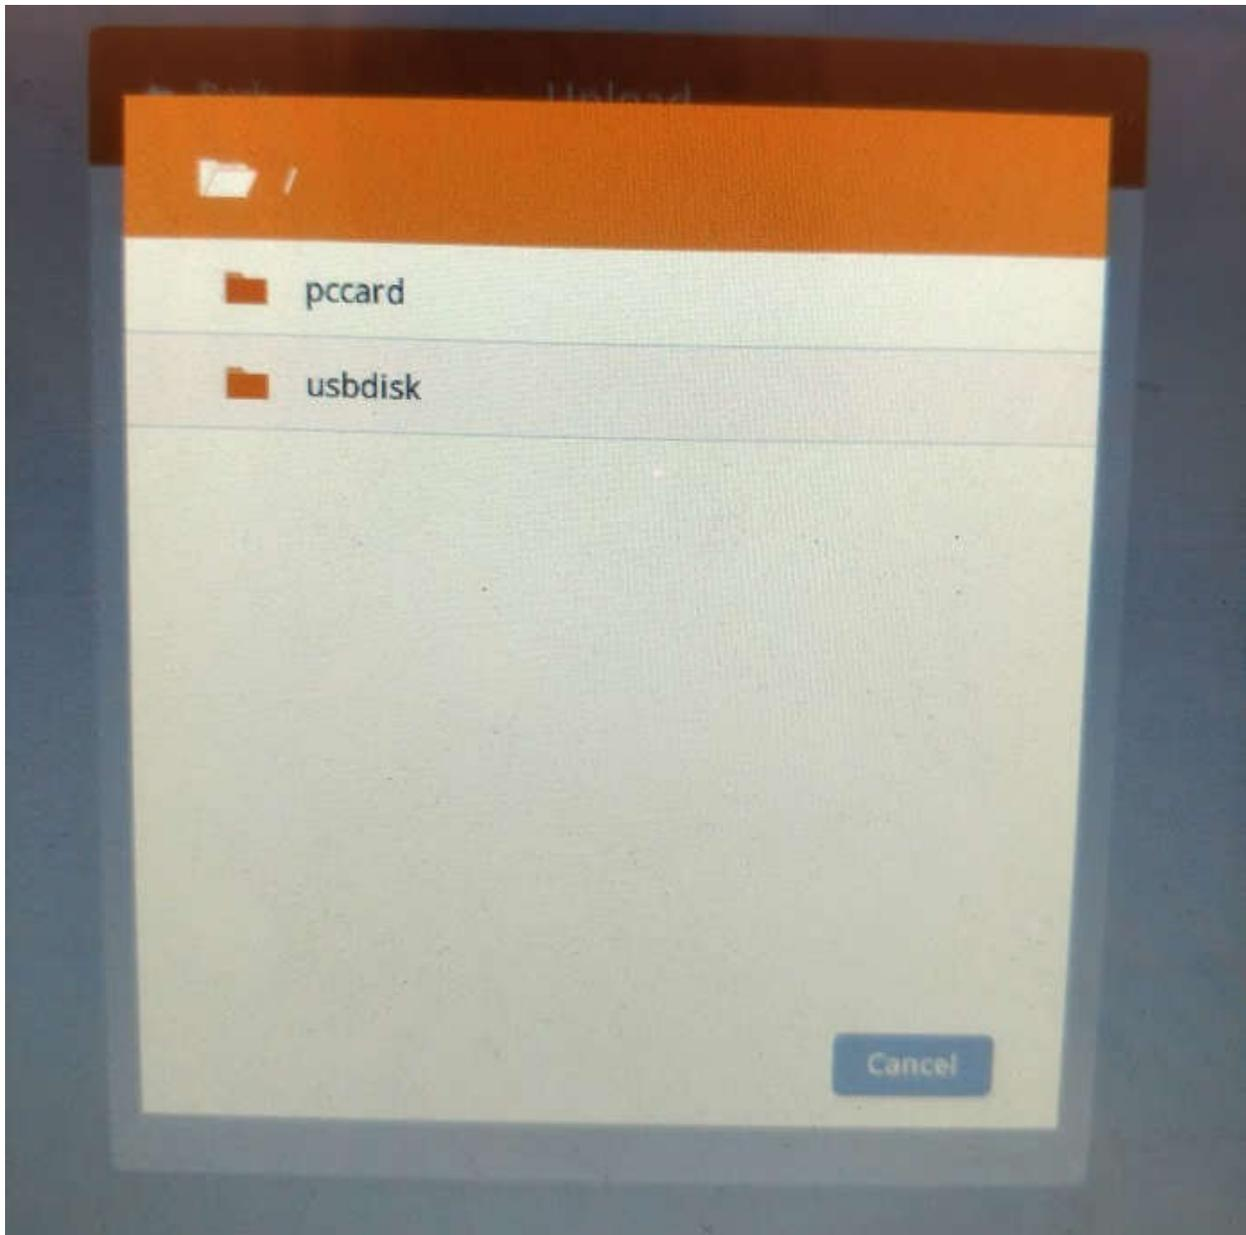

Fig. 24 Device selection screen
3. Press the folder icon at the right of the “destination” field. This will determine where the uploaded files are stored on the USB flash drive. Doing this will pull up the screen shown in fig. 24. On this screen select the folder “usbdisk”. It is extremely important that “usbdisk” is selected and not “pccard”. If you select “pccard” you will not transfer the .db files to the flash drive.